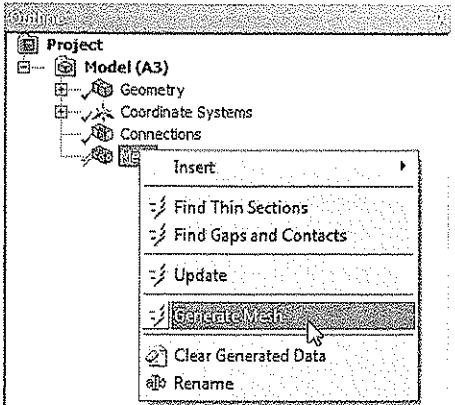

Figure 7-33 Choosing the Generate Mesh option
- Right-click on **Mesh** in the **Tree Outline**; a shortcut menu is displayed, as shown in Figure 7-33.
- Choose the **Generate Mesh** option from the shortcut menu, refer to Figure 7-33; the **ANSYS Workbench Mesh Status** window is displayed.